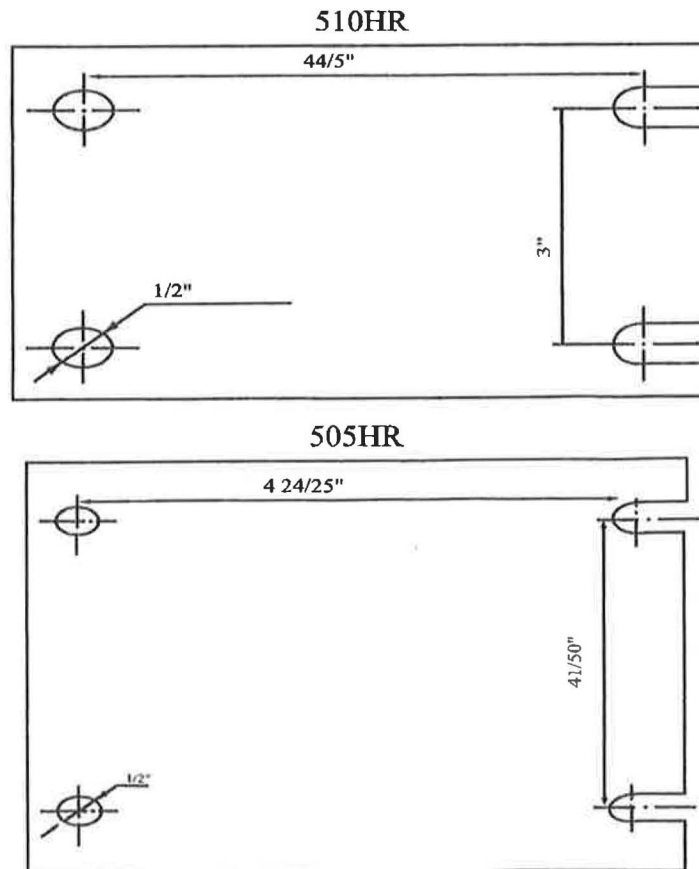

Figure 3
1. The reel base has four 1/2" (or 12.7mm) drilled holes for mounting on a suitable flat surface. Figure 3 is a template showing the correct location of the 4 mounting holes in the base.